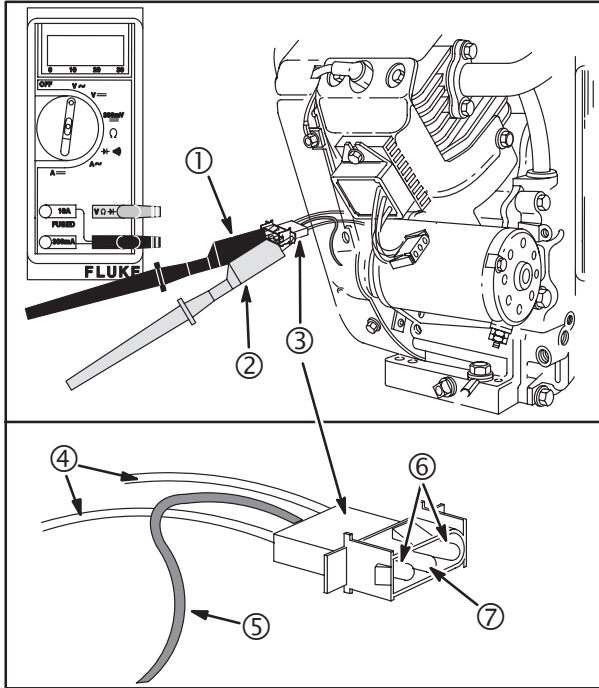

Fig. 31
- Attach RED (2) and BLACK (1) test lead probes to the YELLOW wire (4) AC output terminals (6), of the connector (3), as shown in **Fig. 31**. (Meter test clip leads may be attached to either AC output terminal.)
- Attach RED test lead probe (2) to the RED wire (5) DC output terminal (7), of the connector, **Fig. 31**.
- Attach BLACK test lead probe (1) to negative battery terminal.